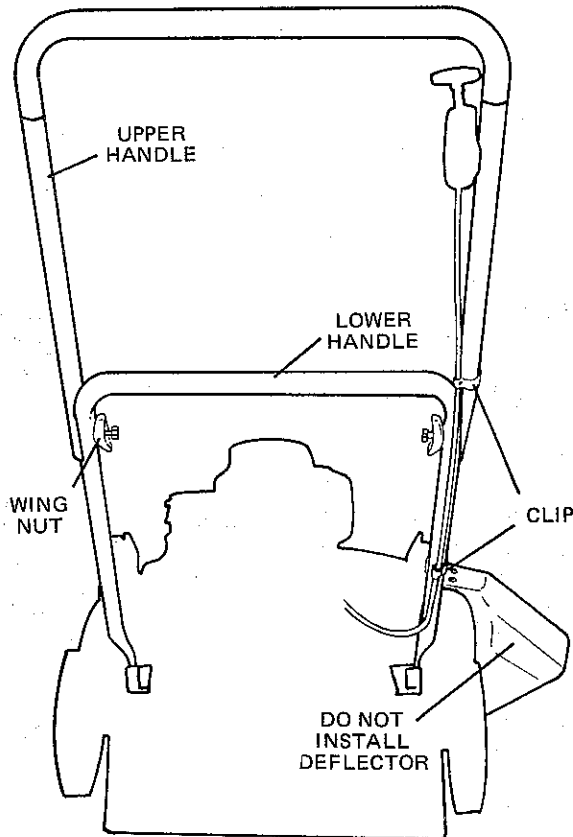

Figure 1
1. Straighten upper and lower handles out and lock them in position with two wing nuts. (Figure 1) Use care not to loosen throttle control cable from clips on handles or kink throttle control cable when folding or unfolding.
2. If the grass bag is used, the deflector should be mounted on top of the grass bag clip using two Phillips head screws, lockwashers and hex nuts (Figure 1). Use the holes nearest to hook for 22" mower and two farthest for 20" mower.